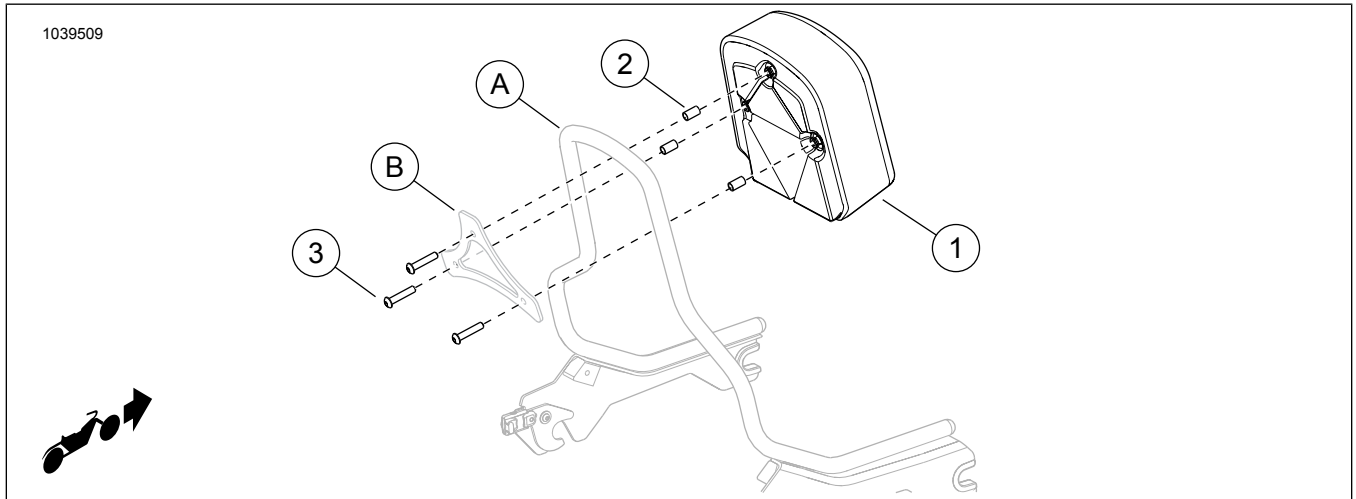

Figure 1. Kit Contents: Standard Sized Backrest Pad (Softail)
1. See Figure 1. If necessary, cut plastic rain seal away from two pre-cut holes in backrest (2) to prevent plastic from catching in the threads.
2. Place mounting bracket (B) against spacers (2), so that holes of mounting bracket align with spacers.
3. Insert one screw (3) from kit through one hole in bracket (B) and spacer (2).